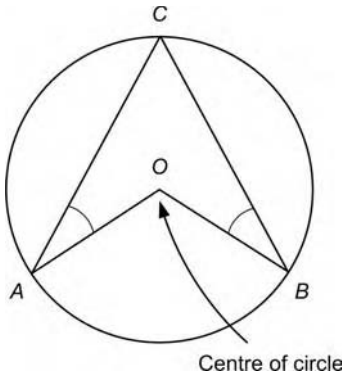

Figure 2.55
84. From Figure 2.55, the $\angle AOB$ is equal to: [B1, B2]